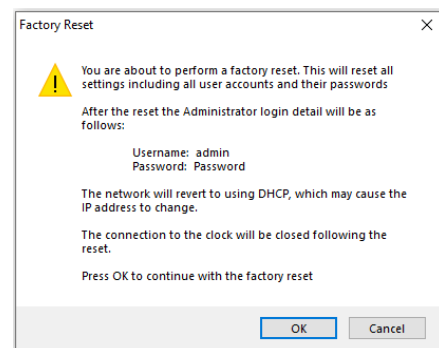

Figure 61 - "Factory Reset" window
**“Factory Reset” button:** The Factory Reset button returns the clock to the factory default settings, and removes all of the groups and users configured on the device. When clicked, the “Factory Reset” warning window appears. Refer to Figure 61.